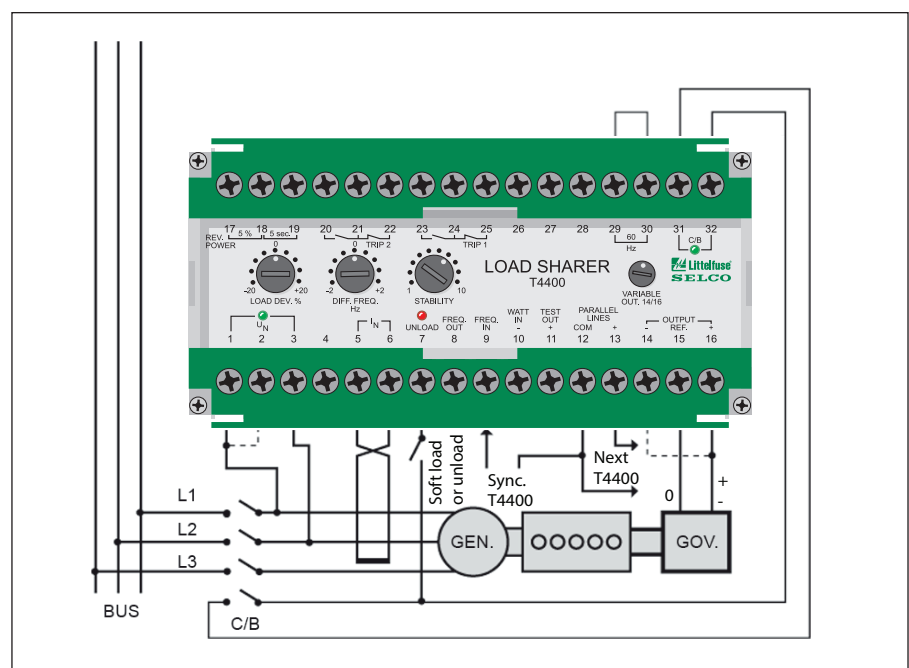

Fig. 1. Application diagram for T4400 and speed controller with -5V to +5V DC input.
Fig. 1 shows how to connect to most Woodward and Heinzmann speed controllers. For connection to other makes please refer to the section "Interfacing" on the following page.
- If the deviation from other generators is approximately two times, it is likely that the current on terminals 5 and 6 is measured in one of the phases supplying the T4400. The current must be measured in the phase that is not supplying the unit (see the application diagram in fig. 1).